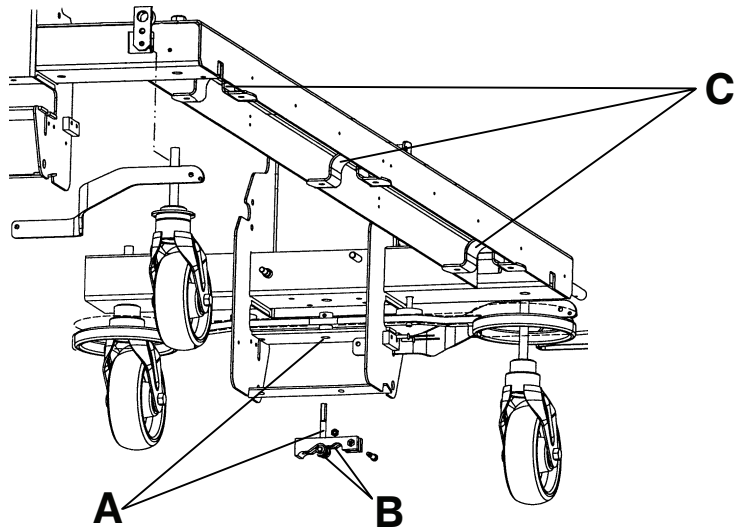

Figure 5 – Base lubrication
1. Using MPG-2 grease, lubricate the brake adjuster rod around the areas noted at (A) (Figure 5)
Note - Do not grease these areas (B) (Figure 5).